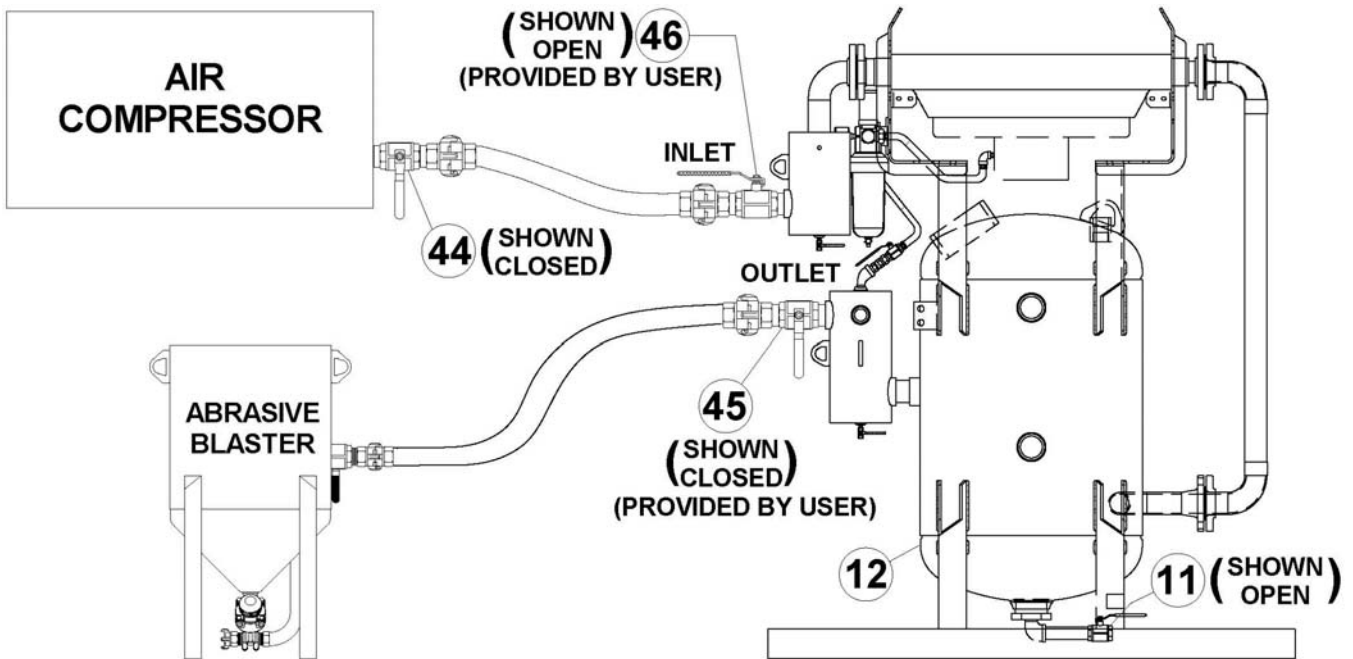

Figure 6.2 – Typical AirPrep System (ADS System shown)
- 6.2.1. Close the air compressor outlet ball valve (#44, provided by user). See Figure 6.2.
- 7.2.4. Open the AirPrep System air inlet ball valve (#46). **Note:** This valve is provided by the equipment owner/operator and filed installed. See Figure 6.2 and Section 5.1.
- 7.2.9. Open outlet ball valve(s) (#45) to supply air to the connected equipment (see Figure 6.2).
- 7.3.2 Close all the AirPrep System air outlet ball valves (see Figure 6.2).
- 7.3.3 Turn off the air compressor and/or close the compressor’s outlet valve (see Figure 6.2).